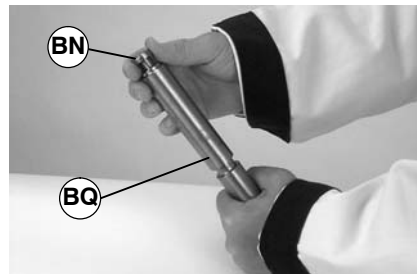

Figure 37
- Slide bearing (part # 240338) (BN of Figure 37) onto spindle (BQ).